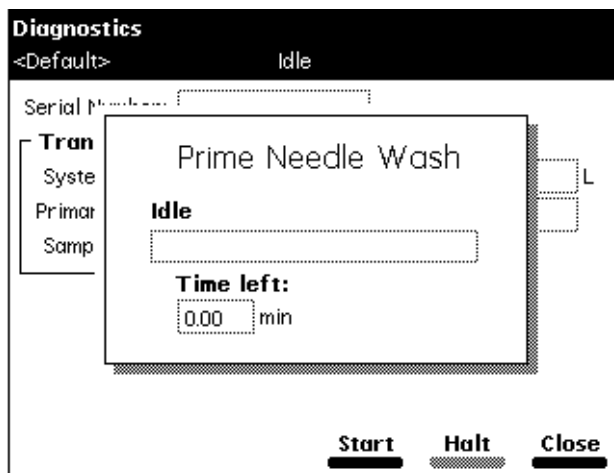

Figure 8-6 Prime Needle Wash Dialog Box
2. Press the **Prime NdiWash** screen key in the Diagnostics screen. The Prime Needle Wash dialog box appears (Figure 8-6).